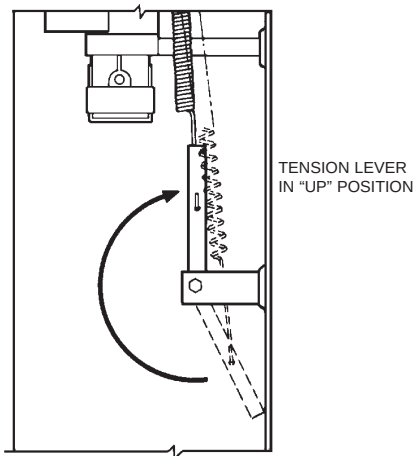

FIGURE 8-18
- 23. Raise the tension lever to “UP” position. See Figure 8-18.